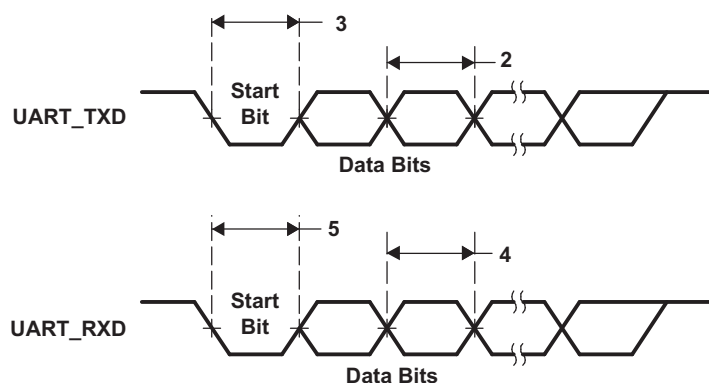

Figure 5-25. UART Transmit/Receive Timing
Table 5-27. Timing Requirements for UART Receive⁽¹⁾⁽²⁾ (see Figure 5-25)
(1) U = UART baud time = 1/programmed baud rate.
(2) These parametric values are measured at DV_{DDIO} = 3.3 V, 2.75 V, and 2.5 V
Table 5-28. Switching Characteristics Over Recommended Operating Conditions for UART Transmit^{(1) (2)} (see Figure 5-25)